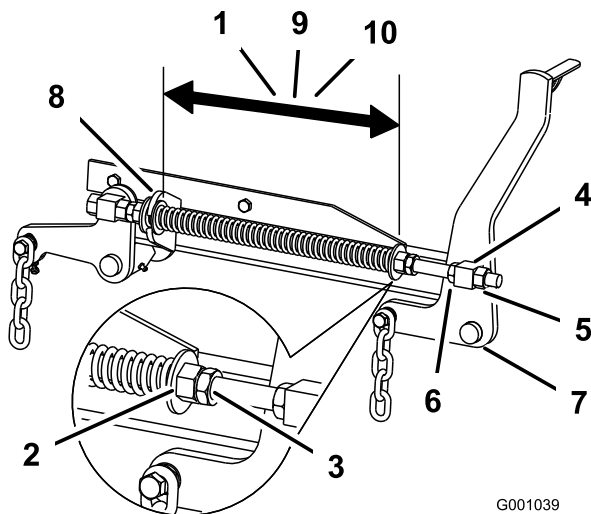

Figure 73
2. Check the distance between the two large washers, it needs to be 11-1/8 inches (28.2 cm) for 52 inch mower decks, 10-1/2 inches (26.7 cm) for 60 inch mower decks or 11-1/2 inches (29.2 cm) for 72 inch mower decks (Figure 73).
3. Adjust this distance, by loosening the spring jam nut and turning the nut in front of each spring (Figure 73). Turning the nut clockwise will shorten the spring; counter-clockwise will lengthen the spring.
4. Lock the nut into position by tightening the spring jam nut (Figure 73).